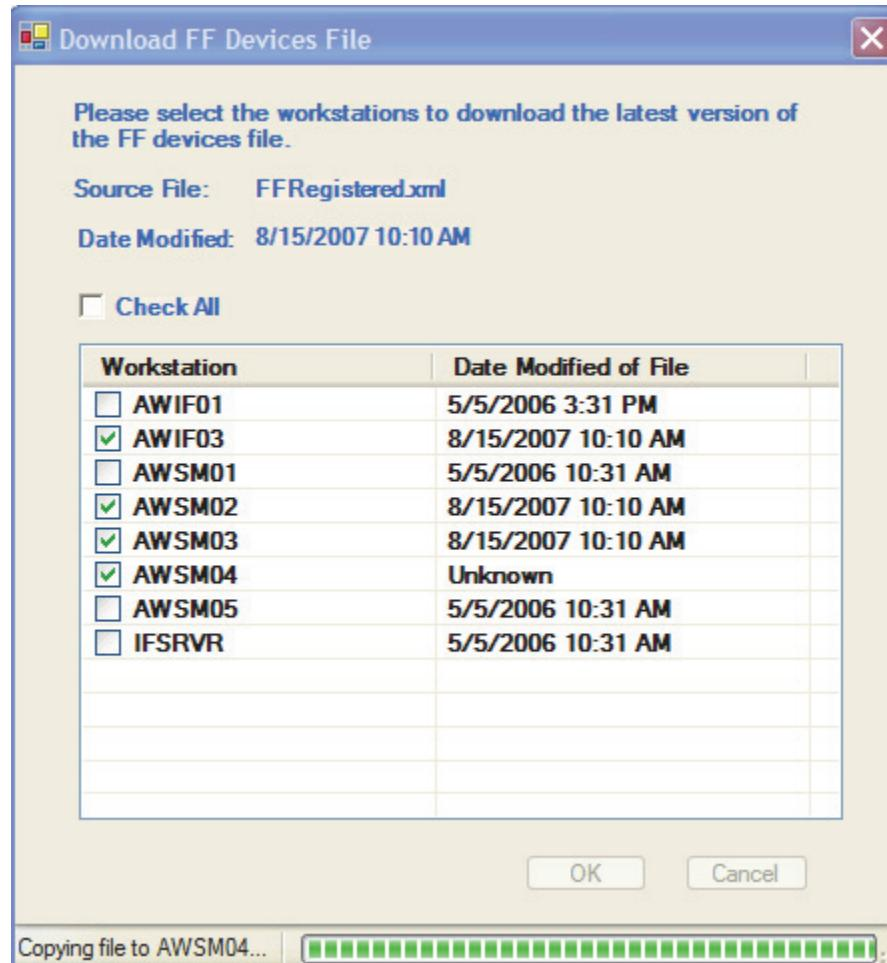

Figure 2-28. Download FF Devices File Dialog Box
3. The Download FF Devices File dialog box appears and lists workstations that are currently running. Select those workstations to which you want to copy the FFRegistered.xml file. When the download is being performed, a description of the current status appears in the left corner of the Download FF Devices File dialog box, and the progress is indicated in the right corner of the status bar, as shown in Figure 2-28.